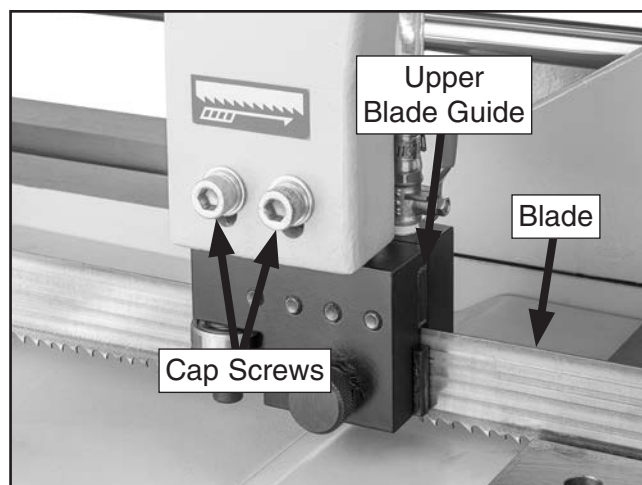

Figure 98. Upper carbide blade guide adjustment components.
5. On left blade guide, verify back of blade lightly contacts upper carbide blade guide (see **Figure 98**).
6. Loosen cap screws on blade guide arm (see **Figure 98**), and adjust blade guide up or down until upper blade guide lightly touches back of blade, then tighten cap screws.